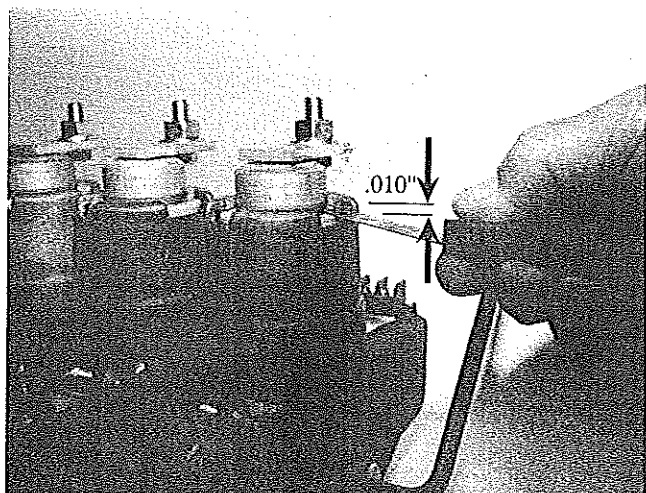

FIGURE 6
6. The gap between the top of the interrupter and cap (See Figure 6) is remaining overtravel and represents remaining electrode life. This can be measured with a wire gauge and must not be less than .010". An alternative measurement is, that when retightening caps clockwise, they must be able to be rotated at least 15°. If less than these figures, erosion is excessive and the interrupter must be replaced. (See Phase Assembly Replacement Instructions).